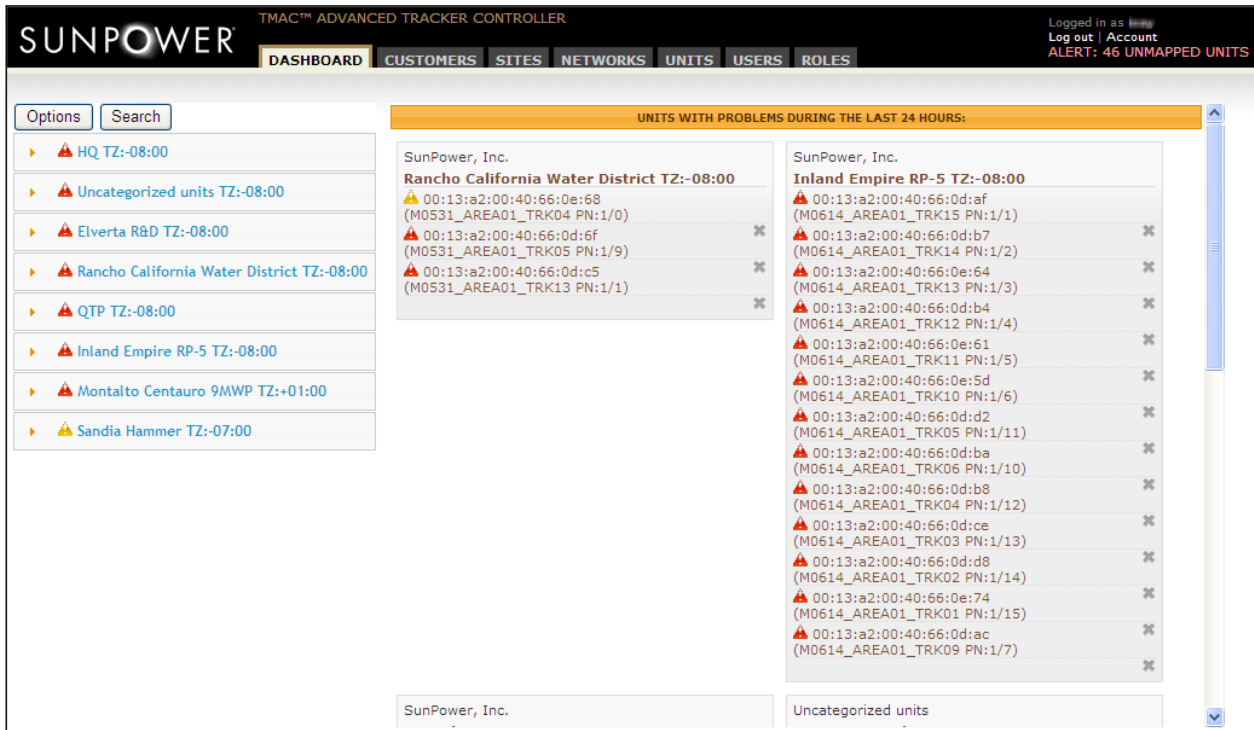

Fig. B4
4. The main page displays the filtered lists showing the sites with alerts during the last 24 hours (Fig. B4). Sites that have DTMAC units with persistent alerts (more than 24 hours) are also included in the list.